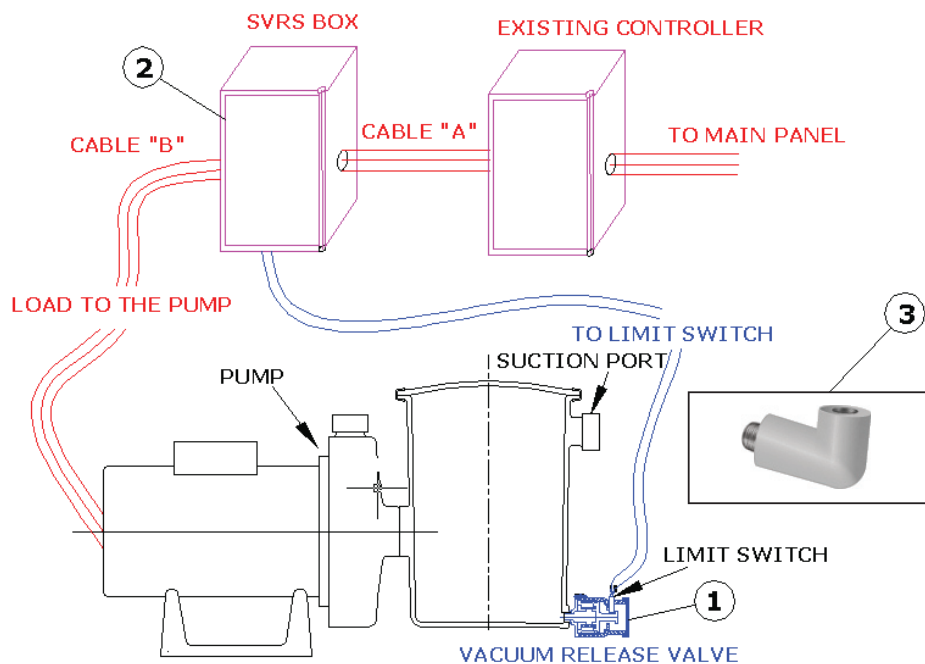

Figure 1. Breather III-ADJ System Schematic
# 1. PARTS LIST (See Figure 1)
- a. A piece of cable with copper conductors same gauge as the existing cable to make cable "A" and cable "B" if needed. See Figure 1.
- 4.6 Remove the most convenient knockout of the SVRS box and attach incoming line from existing timer or controller cable “A” to box using proper conduits and cable connectors as shown in Figures 1 and 3.
- 4.7 If your pump is cord and plug connected, remove plug at end of pump cord. Split cord about 4 inches and strip wire ends 1/2 inch. Remove the most convenient knockout of the SVRS box and attach cord to box using proper strain relief grommet as shown in Figures 1 and 3.
- 4.8 If your pump is hard wired, (if needed) prepare cable “B” by stripping the ends of wires about 1/2 inch, Using proper conduits and cable connectors attach cable “B” to the box as shown in Figures 1 and 3.
- 4.9 Connect the cable to the pump motor and then the wires to the motor terminals per motor instructions and nameplate diagram. Remove the most convenient knockout of the SVRS box and attach the other end of the cable to the box using proper cable connector as shown in Figures 1 and 3.